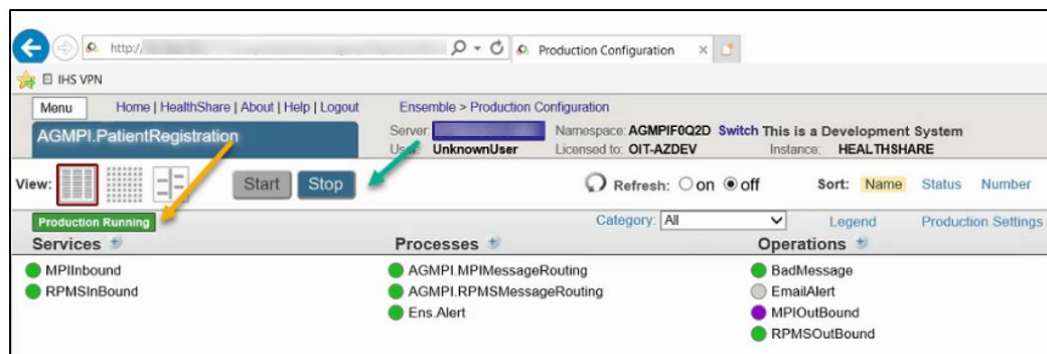

Figure 8-1: Production Configuration page – production running
1. Enter Ensemble following the steps in Section 2.0. If the production is running (Figure 8-1, golden arrow), it must be stopped before another can be started. Click **Stop** (Figure 8-1, green arrow).